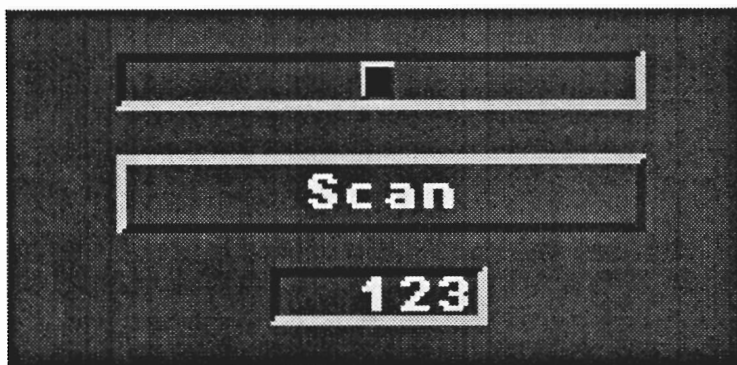

Figure 3.1: The Three Types of Control Mechanisms Used in the EPSON\_SCAN Loader.
Apart from the file requester (which is used to request the names of files for loading and saving) there are three types of control mechanisms used in the EPSON\_SCAN loader. Figure 3.1 shows these three types. These mechanisms are similar to those used throughout the other screens and windows in ADPro. The main noticeable difference between the EPSON\_SCAN loader's screen and ADPro's main operating screen is that the loader's screen operates in the Amiga's high resolution mode.
All sliders in the EPSON\_SCAN loader screen will have a similar appearance to the one shown in Figure 3.1.
**GADGET** A gadget is a method of allowing numeric input to the EPSON\_SCAN loader. All gadgets on the EPSON\_SCAN loader's screen will have an appearance similar to the one shown in Figure 3.1.